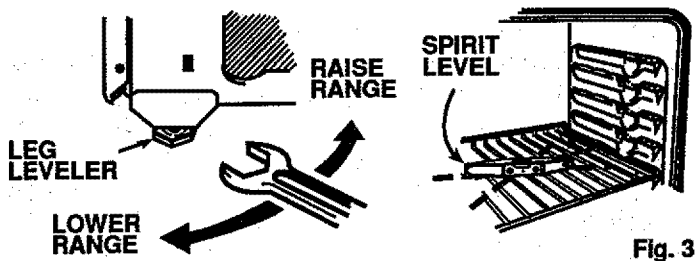

Fig. 3
- d. Use the wrench to adjust the leg levelers. Level range front to back and side to side. See Fig. 3.